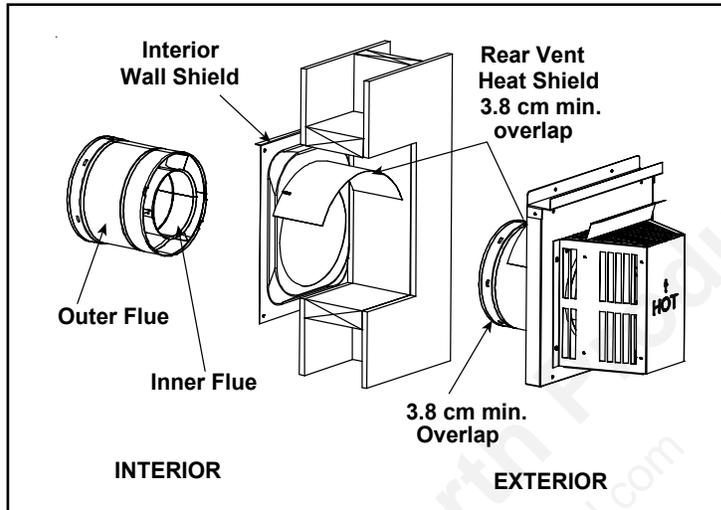

Figure 22. Venting through the Wall
- One section of the heat shield is attached to the wall shield. The other is attached to the termination cap in the same manner (see Figure 22).
- The heat shield sections will overlap to match the wall thickness (depth). The small leg in the shield rests on top of the flue to properly space it from the pipe section (see Figure 22).